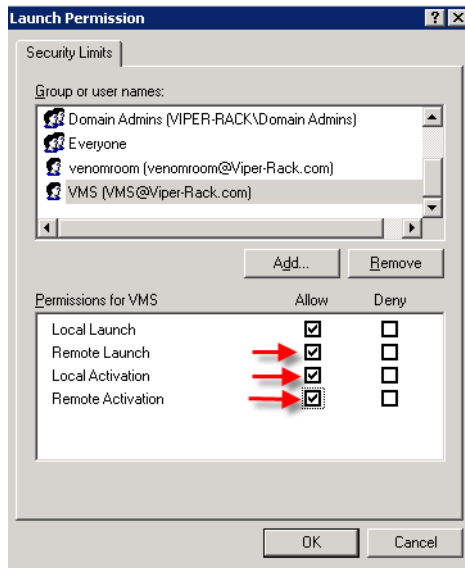

Figure 2-31 Launch Permissions with New User
7. Click on **OK**. This will return you to the Launch Permissions window with the new user highlighted. Check **Allow** on any boxes that are blank as shown in figure 2-31, then click the **OK** button.